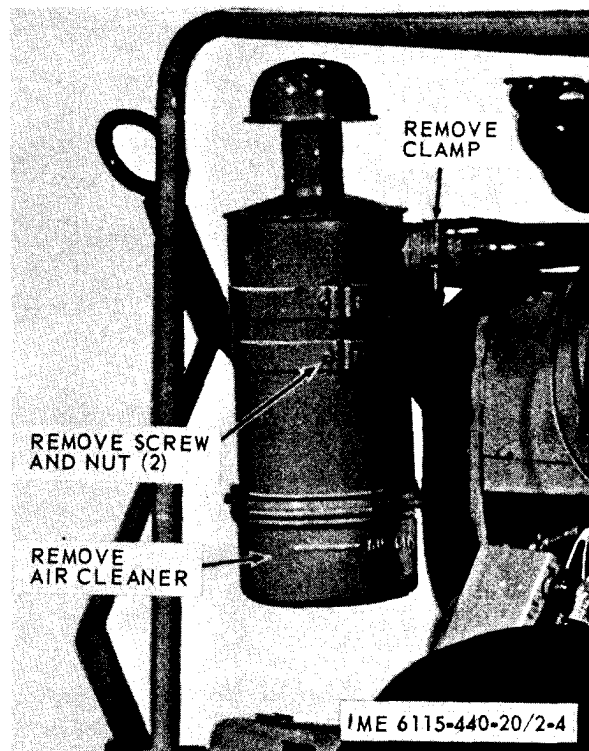

Figure 2-4. Air cleaner, removal and installation.
a. Removal. Refer to figure 2-4 and remove the air cleaner.
b. Installation. Refer to figure 2-4 and install the air cleaner.